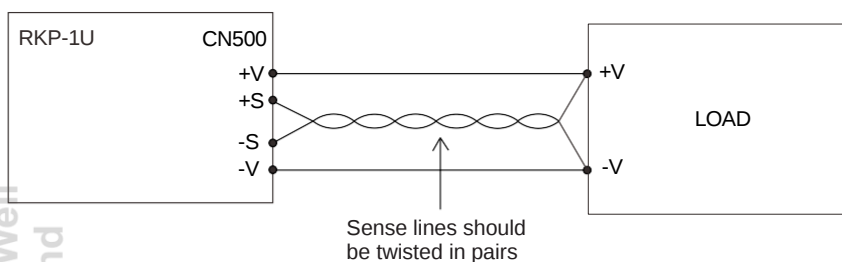

Figure 3-5 Connection for using the "Remote Sense" function
- When using this function, the sensing wires should either be twisted or shielded to prevent external noise interference (refer to Figure 3-5).